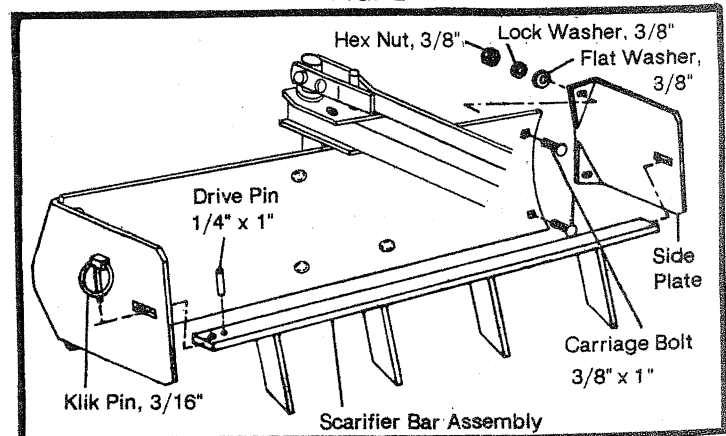

Fig. 3.
Refer to Fig. 3
- Your Unit may be used as a Rear Blade by removing the Scarifier and Side Plates (see instructions and illustration- Fig. 3).